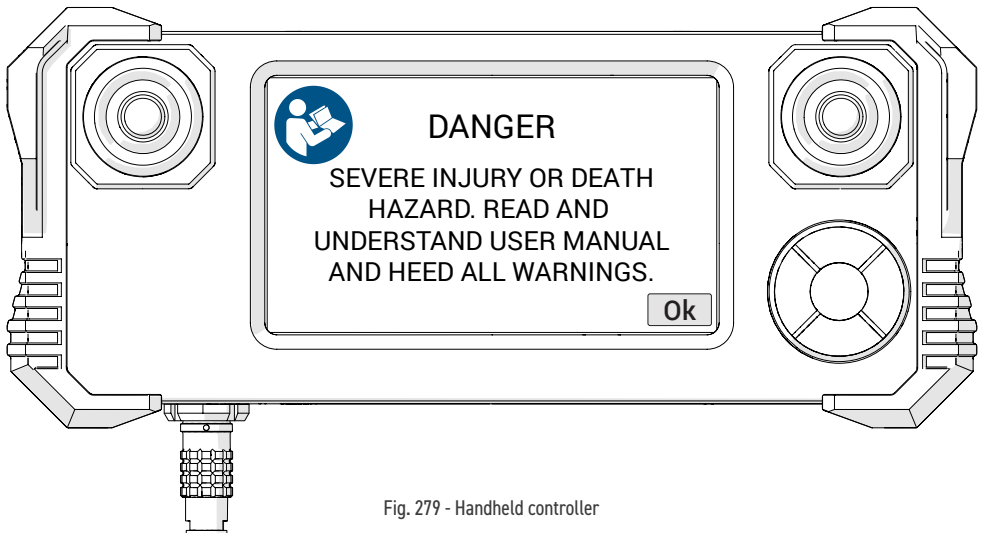

Fig. 279 - Handheld controller
5. A warning message will display on the handheld controller when power has been activated. Once the dangers of using the **NAVIC** are recognized and understood by reading this user manual, touch **Ok** to acknowledge the warning (Fig. 279).